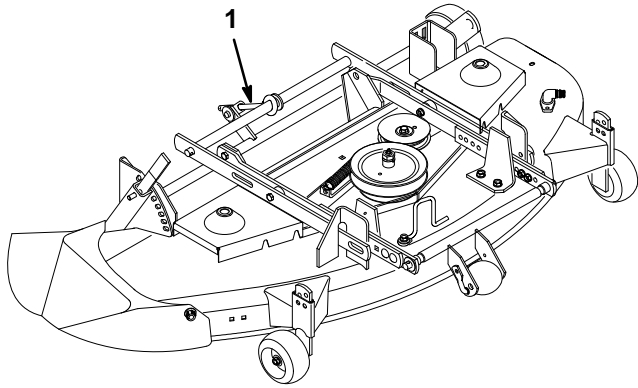

Figure 16
4. Front-to-rear adjustment is made by turning the adjusting nut (Fig. 16) on the back of the mower. To raise the front of the mower, turn the adjustment nut clockwise. To lower the front of the mower, turn the nut counterclockwise.